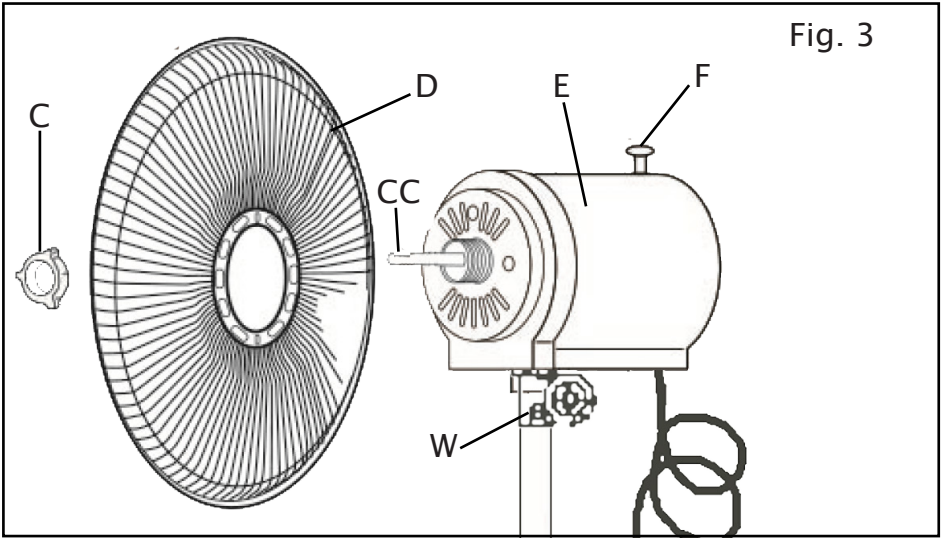

Fig. 3
3- Unscrew the ring nut (C). Place the rear grille (D) on the motor body (E) making sure that the handle is facing upwards and the small hole (BB) downwards. Respect the correct insertion, and lock by screwing the ring nut (C). (Fig. 3)